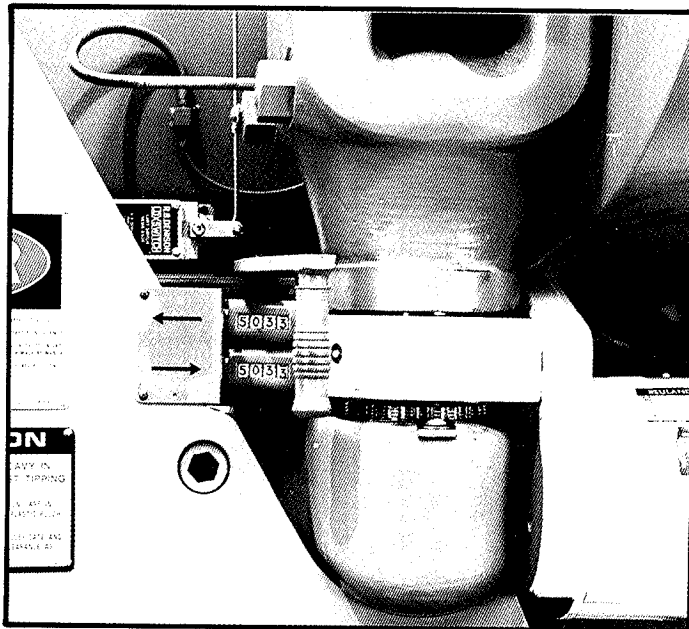

FIGURE 47
5. RAM ADJUSTING AND TILT ADJUSTMENT (FIGURE 47 AND 48)
adjusting the ram bottom of the stroke position in relation to the tooling, a minimum die opening is set. This opening between the dies is equal to the fixed stroke of the ram. The relative position of the ram nose is shown on two indicators located near the right connecting rod (Figure 47). The lower indicator shows the position of the right end of ram, and the upper indicator shows the left end. When both indicators read 0.000 the ram nose is parallel and is at its lowest possible position - maximum down ram adjustment and ram at the bottom of the stroke. The distance from the ram nose to bed top at this position is shown on machine's capacity plate, located on the ram.
When the two indicators read exactly alike the ram is parallel to the bed. However, tilting the ram may be necessary to compensate for material variations, off-center loading, or inaccurate tooling in order to produce acceptable parts. The right end of the ram can be raised or lowered by disengaging the clutch with the tilt adjustment lever (Figure 47) and pressing the "UP" or "DOWN" pushbutton on the magnetic base control. The amount of tilt is the difference in the reading on the two indicators. In most cases the amount of tilt is set by trial and error, making sample bends until the desired bend is attained. The indicator readings should be recorded for future use if this set-up will be used again.